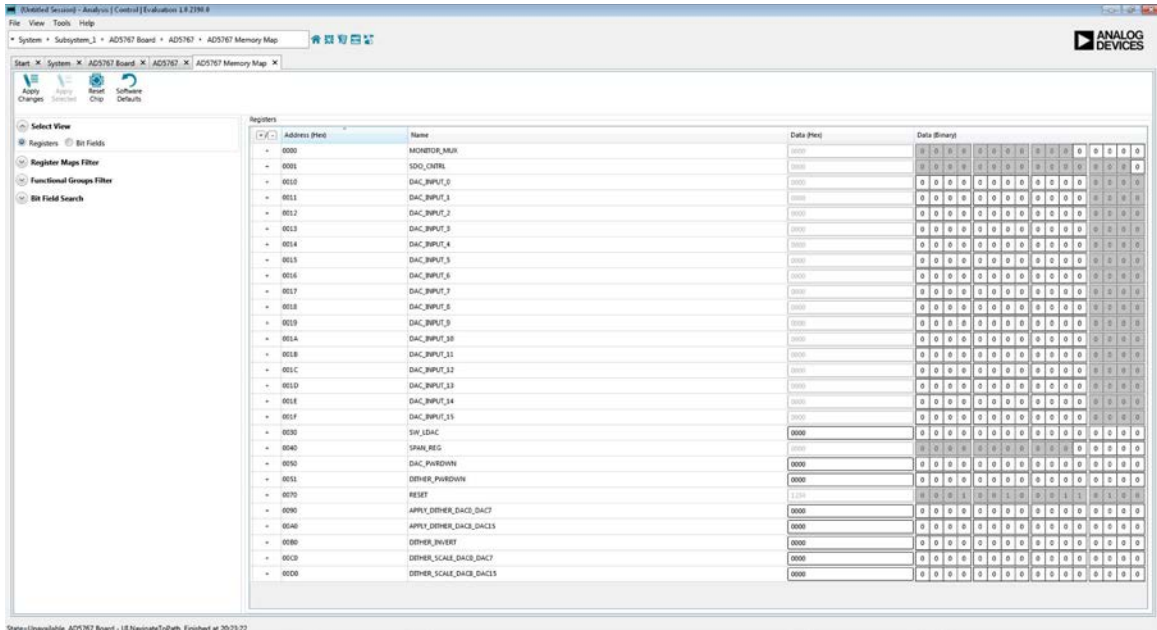
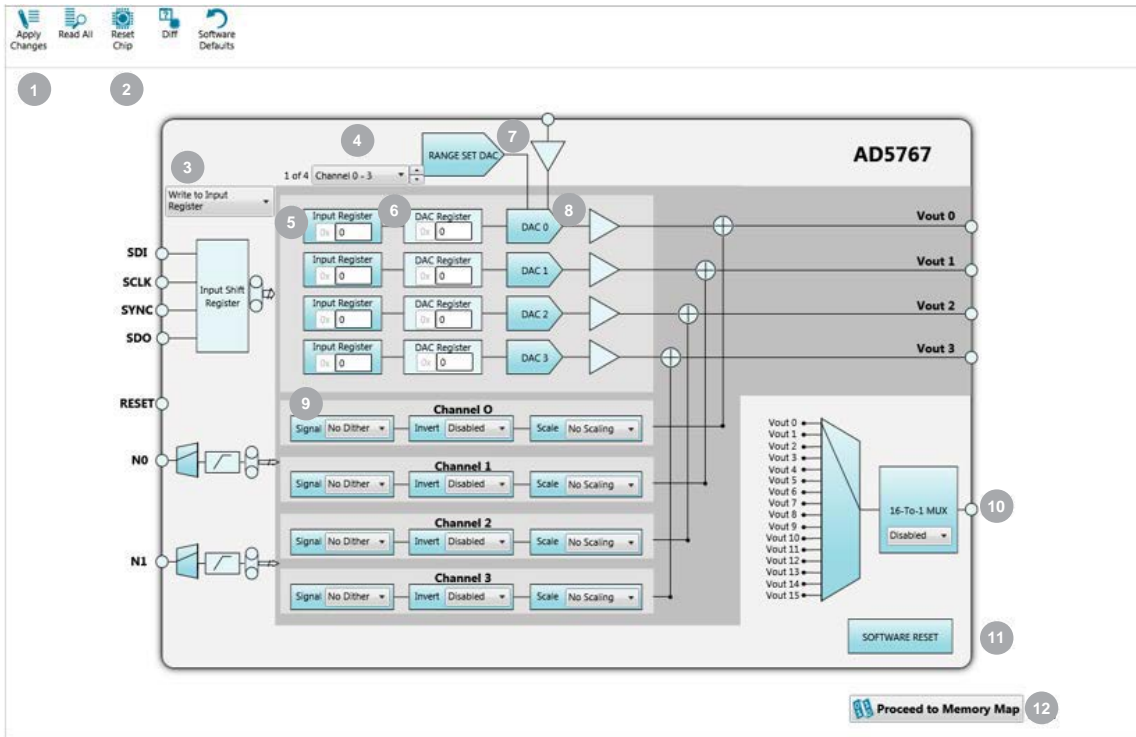

Figure 10. AD5767 Memory Map Tab
Figure 11. Main Window
4. Click the **Proceed to Memory Map** button (Label 12 in Figure 11) to open the **AD5767 Memory Map** tab and allow access to all registers (see Figure 10). The hardware registers on the AD5767 are not altered until the **Apply Changes** button is clicked.
For a detailed description of all GUI options, see Table 6 and Figure 11.
Table 6. GUI Options (See Figure 11)